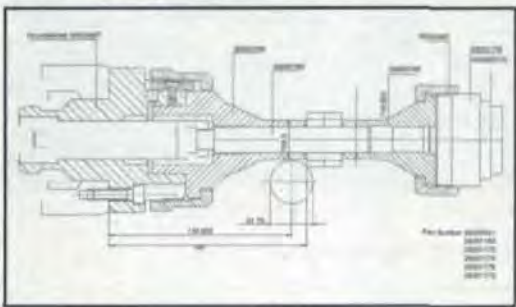

Figure 5—Precision quick-change, face-clamping fixture for clamping more than 150 types of parts.
**The Fixturing.** Because the fixture quality is critical to process capability, we acquired a precision, quick-change, face-clamping fixture (Fig. 5). The fixture had a modular design for more than 150 parts. The design was also based on the consideration of clamping the parts as close as possible to the cutting action. At most, there are three fixture items that need to be replaced when changing over from one part to another: backing, clamping and arbor.